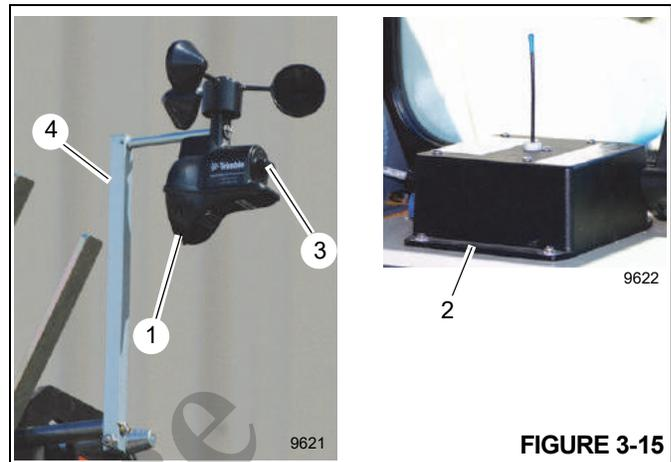

FIGURE 3-15
The crane features an optional wind speed indicator (or Anemometer) to measure wind speed at the end of the boom. The wind speed indicator features a radio anemometer assembly and a wireless gateway router (2), (Figure 3-15). The anemometer (1), (Figure 3-15) which captures wind speed data at the end of the boom or jib, is battery powered and communicates wirelessly with the gateway router (2), (Figure 3-15) located in the crane cab. The gateway router receives data from the anemometer and routes the data to the RCL Display.
2. Remove the battery cover (3), (Figure 3-15) and old battery from the anemometer.